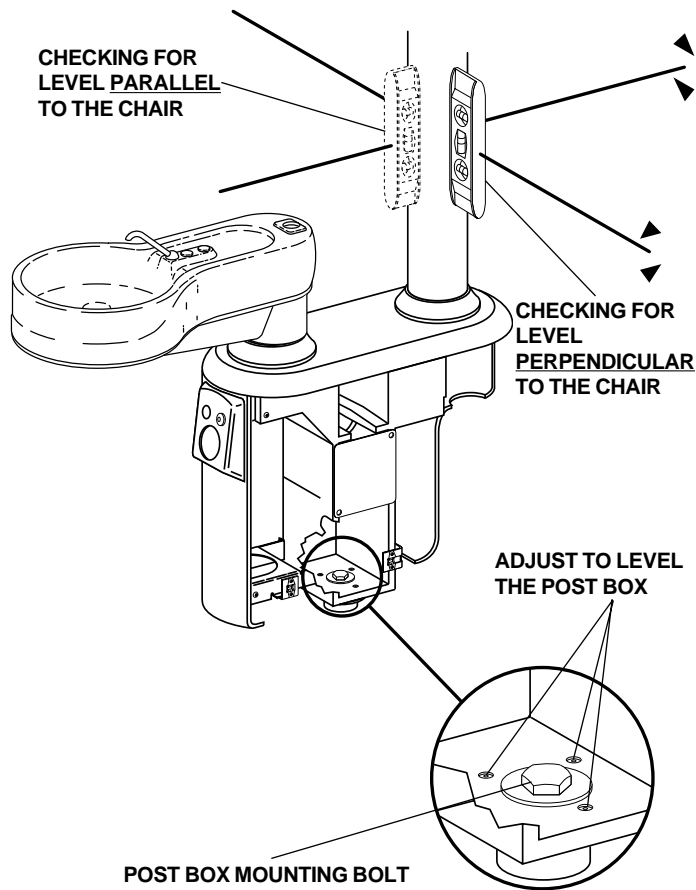

FIGURE 19
2. Place a bubble level on the delivery system rigid arm (see *Figure 19*). Check and adjust for level. Bring the post into a vertical position by adjusting the leveling setscrews (see *Figure 19*).